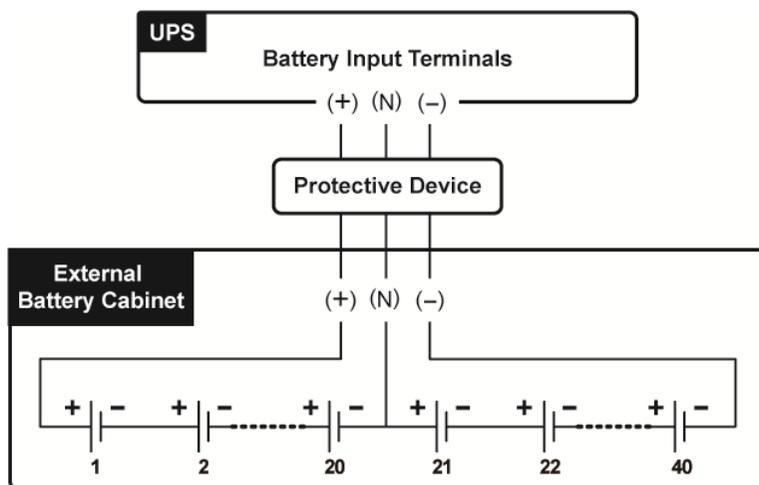

Figure 5-14: External Battery Cabinet Connection
- To connect the external battery cabinet(s) to the UPS, please refer to **5.5 Wiring** and **Figure 5-14**.